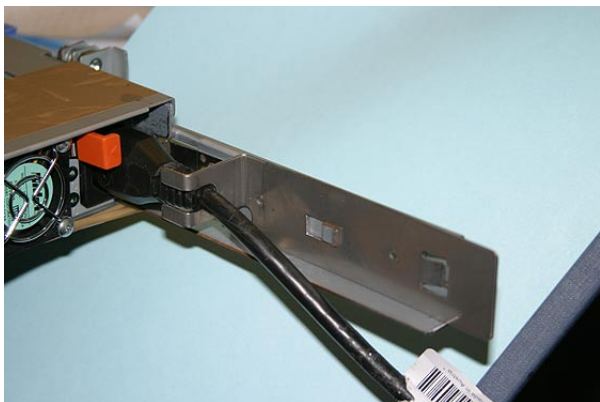

Figure 45. SAN Volume Controller 2145-8F4 with cable retention bracket attached
3. Position the cable retention bracket against the support rail and attach the bracket onto the slot in the rear of the rail. Figure 45 provides a view of the cable retention bracket that is attached to the SAN Volume Controller 2145-8F4.